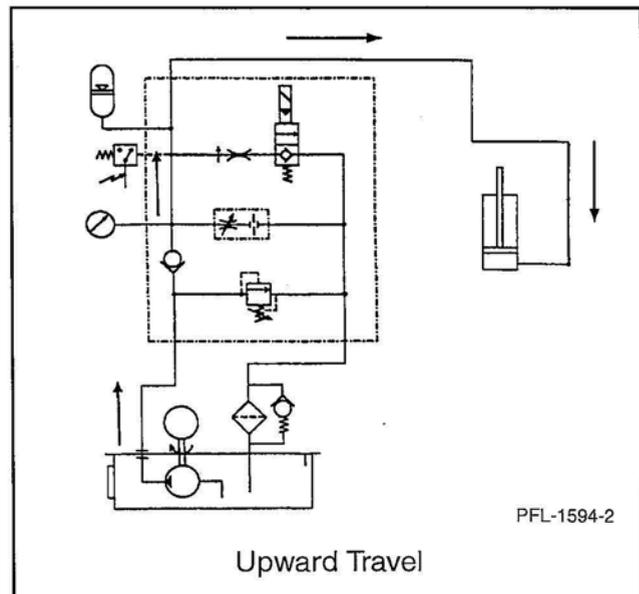

**Figure 18**
- This increase in pressure is sensed by the pressure switch and is shown on the pressure gauge. The switch activates, interrupting the control circuit to the motor starter, shutting down the hydraulic pump unit. See Figure 18.